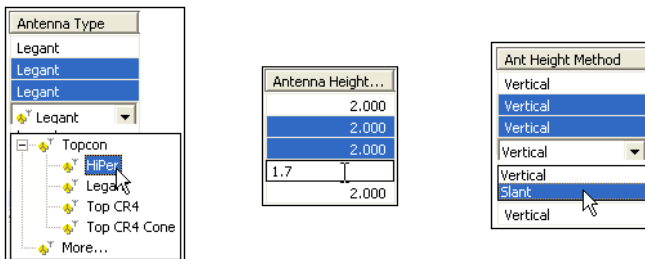

Figure 5-2. Editable Antenna Cells in Tabular View
2. Click a highlighted cell (or press **F2**) and edit the desired information (Figure 5-2).